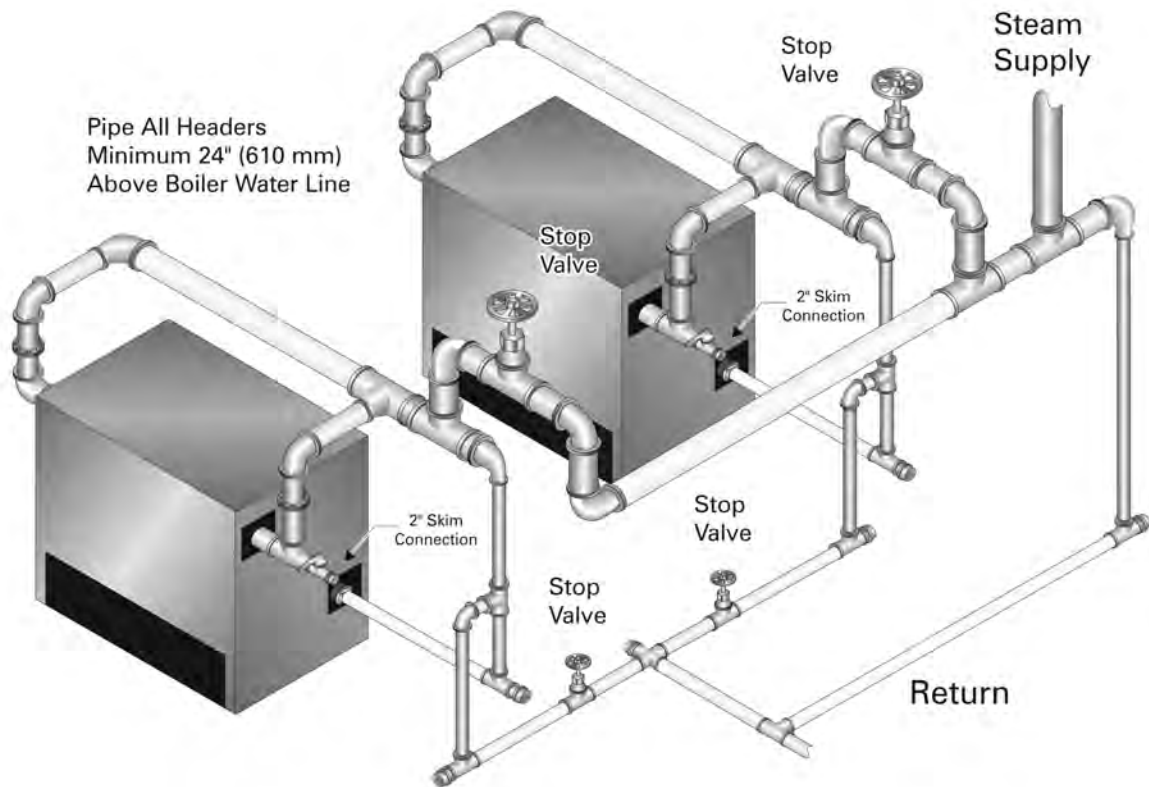
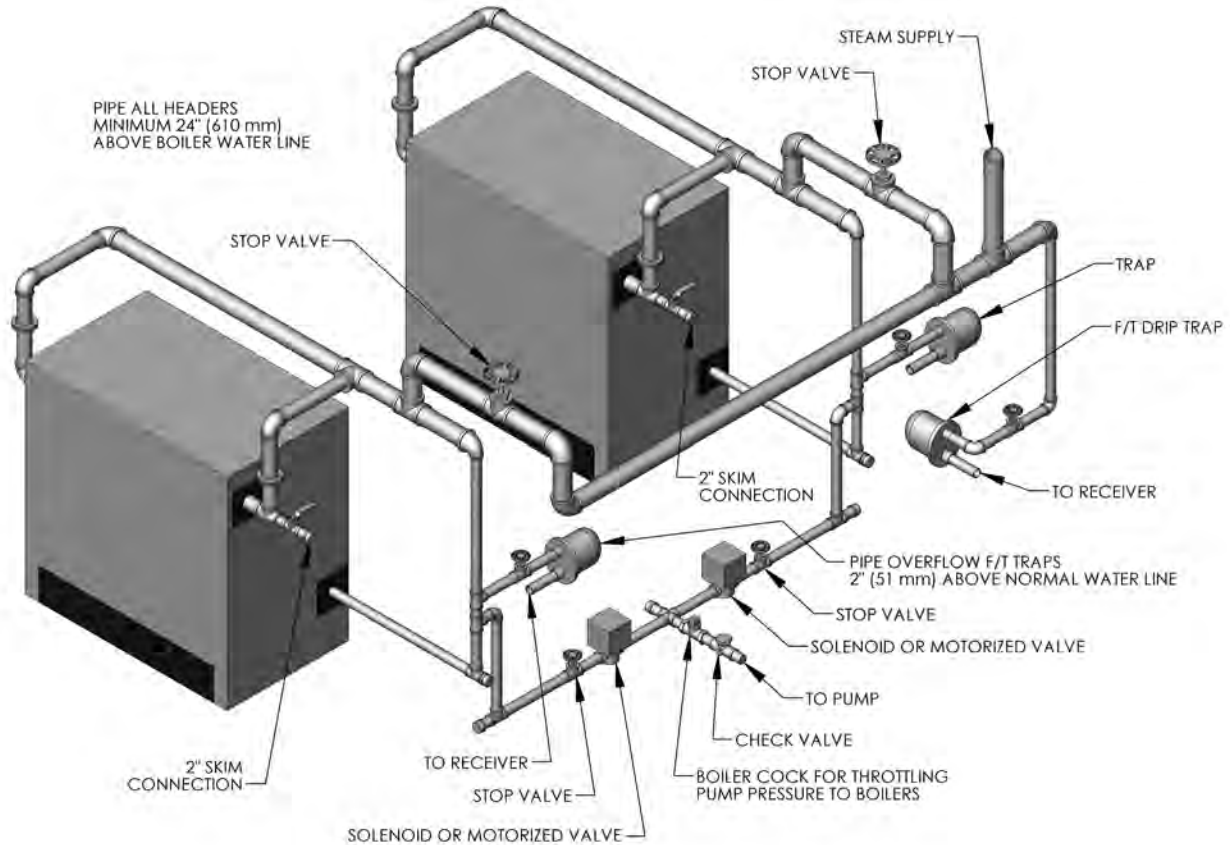

Figure 5.5: Piping Multiple Boilers, Typical, Gravity Return Systems
Figure 5.6: Piping Multiple Boilers, Typical, Pumped Return Systems
1. Figure 5.5 shows typical piping for multiple boiler Gravity Return systems. Figure 5.6 shows typical piping for multiple boiler Pumped Return systems.